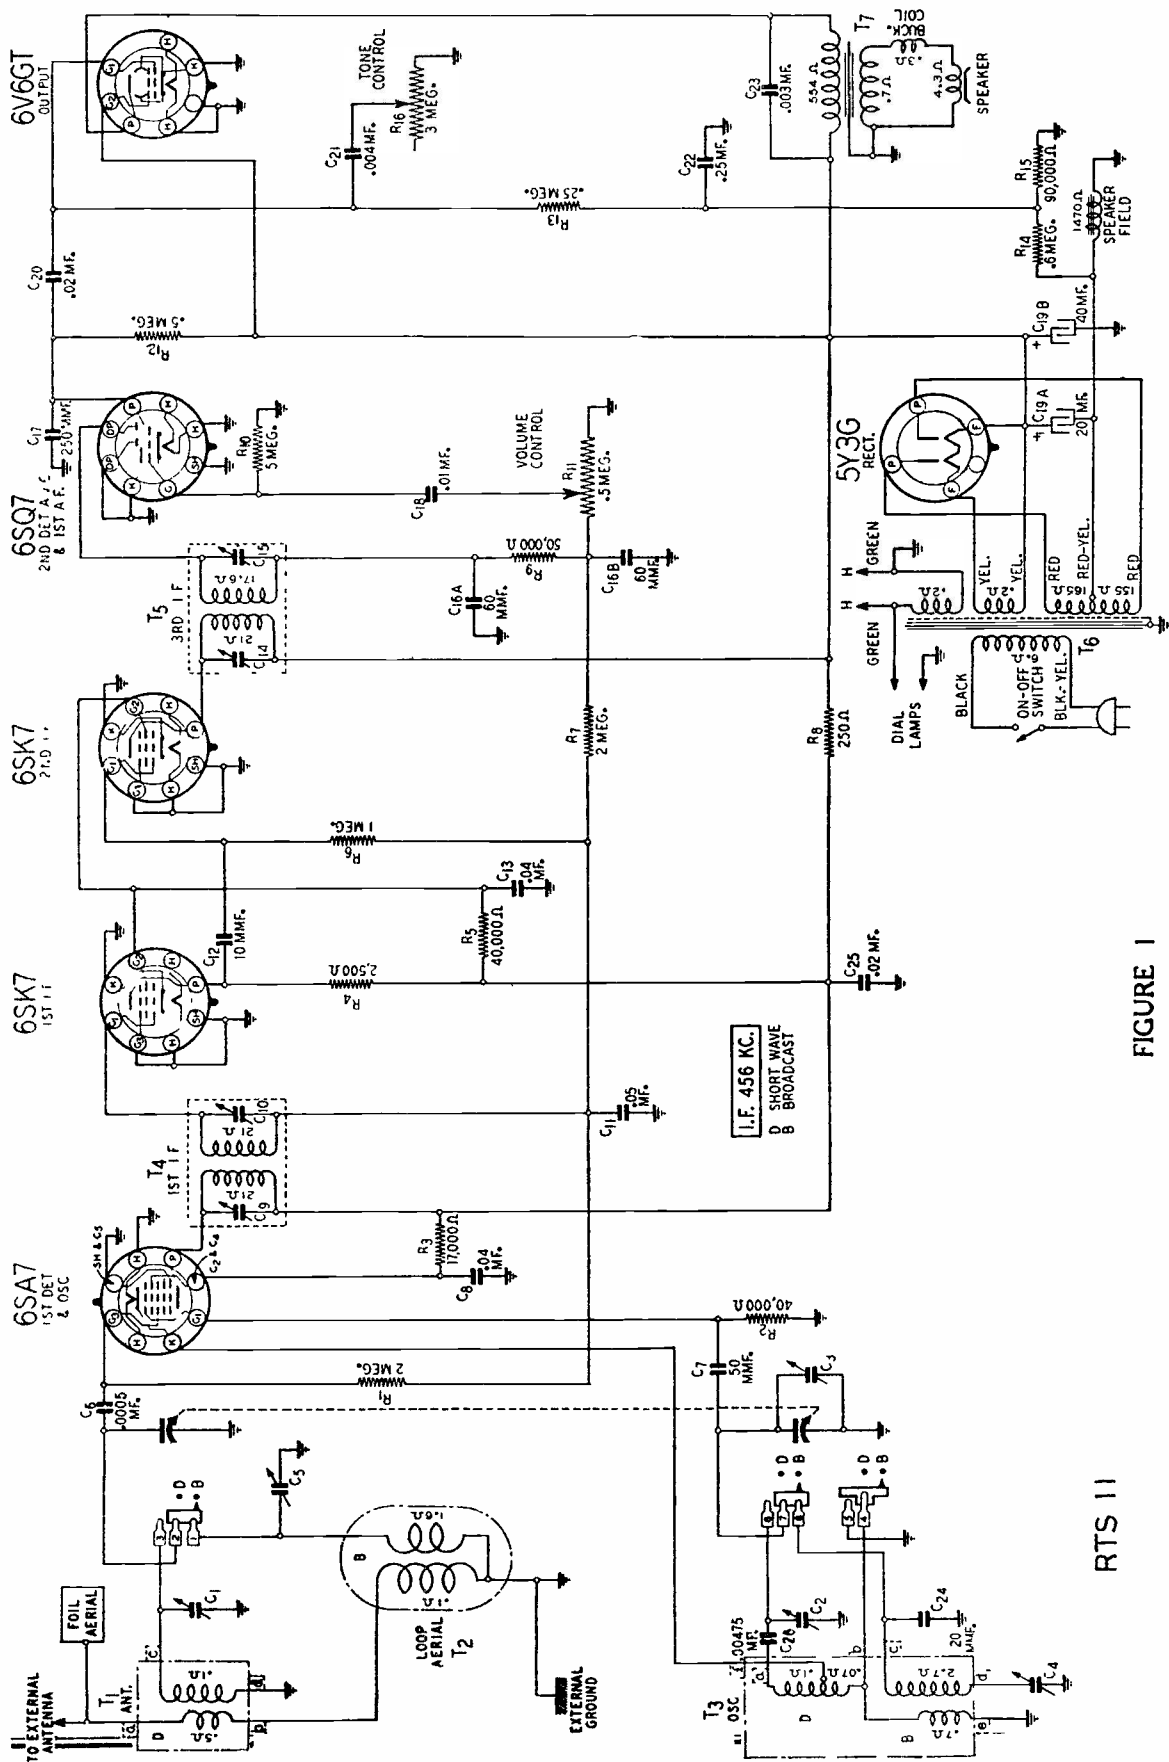

FIGURE 1
The r-f tube is Resistance-Impedance coupled to the Mixer input by the 15,000 ohm load resistor in the 6SK7 plate circuit, the .001 mfd coupling condenser and the tuned coil in the 6SA7 control grid circuit. Except for the type of tuning, the oscillator circuit of Figure 2 is similar to that of Figure 1 for the Broadcast Band.
The 6SA7 is transformer coupled to the 6SK7 i-f tube which, in turn, is transformer coupled to a diode circuit of the 6SQ7 detector. The detector circuit is about the same as that shown for Figure 1, except for the tone compensated volume control.
The output of this filter connects also to the input of another filter made up of a 1500 ohm resistor and two 40 mfd condensers. This compares quite closely to the filter of Figure 1 and its output connects to the plate and screen grid circuits of the other tubes, including the screen grid of the driver tube.
2. Referring to Figure 1, what conclusion can be drawn if "noise" in the speaker does not decrease when the antenna and ground terminals are shorted?
4. What would happen to the grid bias on the 6V6 stage of Figure 1 if resistor R₁₄ is "open"?
5. What quick test can be made to determine if bypass condenser C₁₁ of Figure 1 is open?
8. What undesirable condition is likely to exist if screen bypass condenser C₁₃ in the receiver of Figure 1 becomes "open"?
9. Referring to Figure 1, what would be the probable result on the "sound" if the 40 mfd filter condenser, part C19B, reduces in capacitance?
As a basis for our explanations of the causes and cures for this type of complaint, Figure 1 of this Lesson shows the circuits of an 8 tube, 3 band superheterodyne Radio Receiver
Going further, Figure 2 shows the circuits of an 11 tube combination which includes Frequency Modulation reception as well as 2 bands of a-m radio and provisions for a Phonograph. Unlike the combination of Figure 1, Figure 2 does not include the Phonograph turn table and pick up but does have a "Phono Jack" and include a "Phono" position on the band switch.
Looking at Figure 1 you will find the common type of a-c receiver circuit using a full wave 5Z4 rectifier tube and a dynamic speaker, the 1000 ohm field of which is used as a filter choke.
Coupling condensers are quite common offenders in this respect and, in the circuits of Figure 1, you will find eight of them. Two in the oscillator coil assembly, one in the 6SA7 oscillator grid and five between the detector and speaker. Of these, there is one between the Radio-Phono switch arm and volume control, one between the moving contact of the volume control and the triode grid of the upper 6SQ7 and one between the triode grid of the lower 6SQ7 and the junction between the grid resistors of the output stage.
When the intermittent does appear there are usually certain indications which permit quick tests. For the circuits of Figure 1, the cause of a drop in volume can be localized in
With a combination like that of Figure 1, the audio amplifier can be tested separately by playing a record and comparing the signals with those of Radio Programs. When the trouble is present for both, it is located in the audio amplifier but, if it occurs only for Radio signals, it must be located between the detector and antenna.